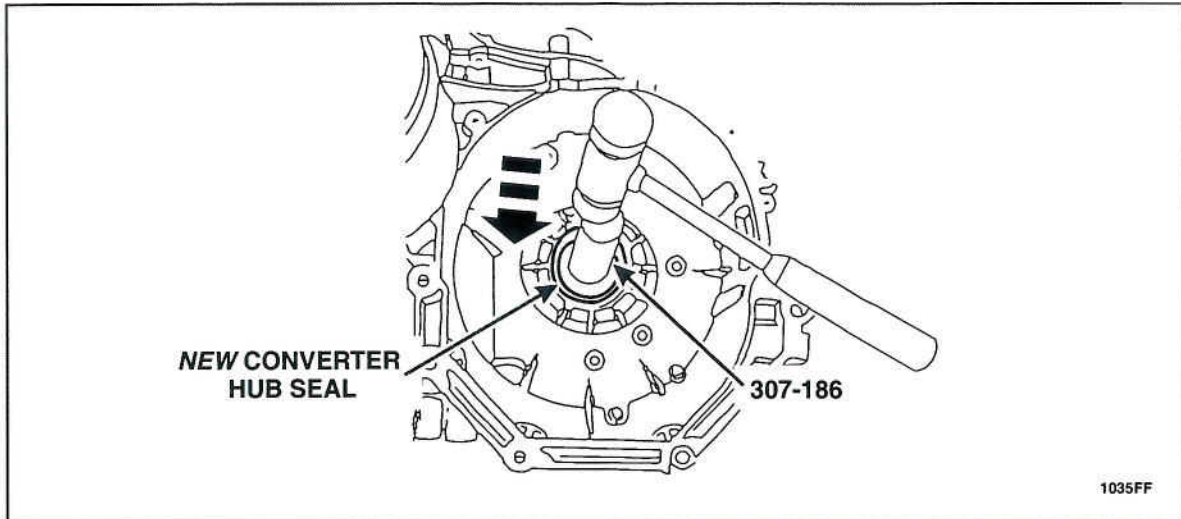

FIGURE 29
1. Using special tool 307-186 install a *new* converter hub seal. See Figure 29.